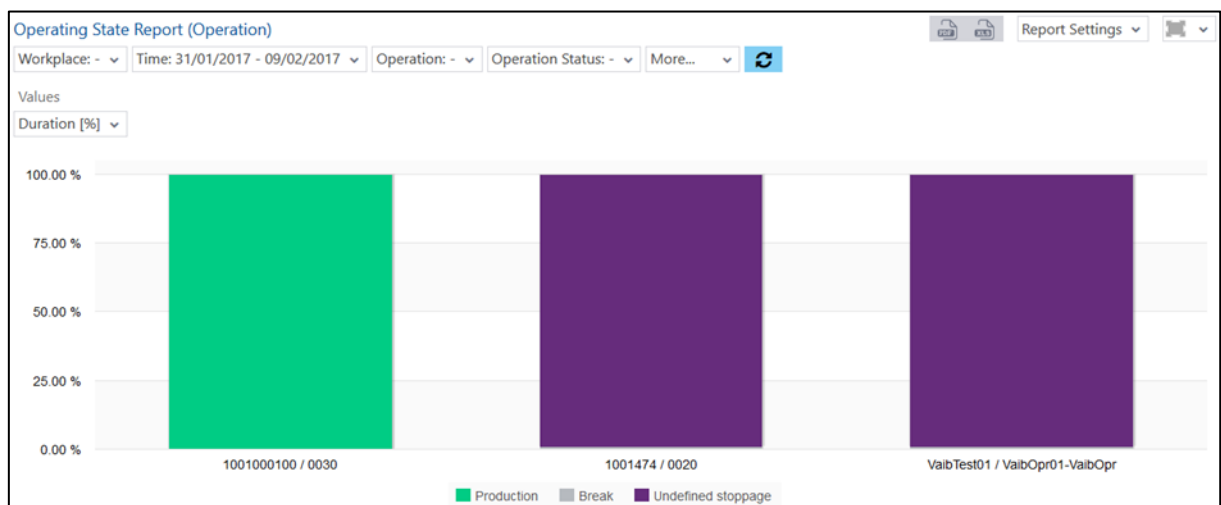

Fig. 87: Operating state report (operation) as column chart
- Operating state report (operation) as a column chart (fig. 87):